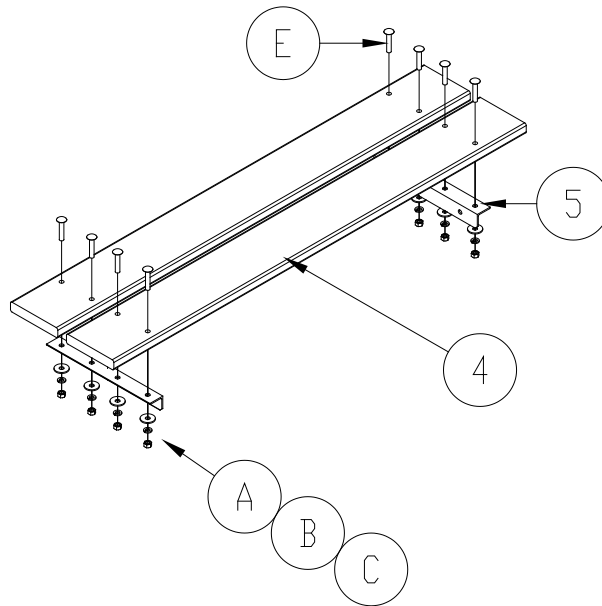

Figure 1-1
2. Figure 1-1 shows the assembly of the cedar bench panel.